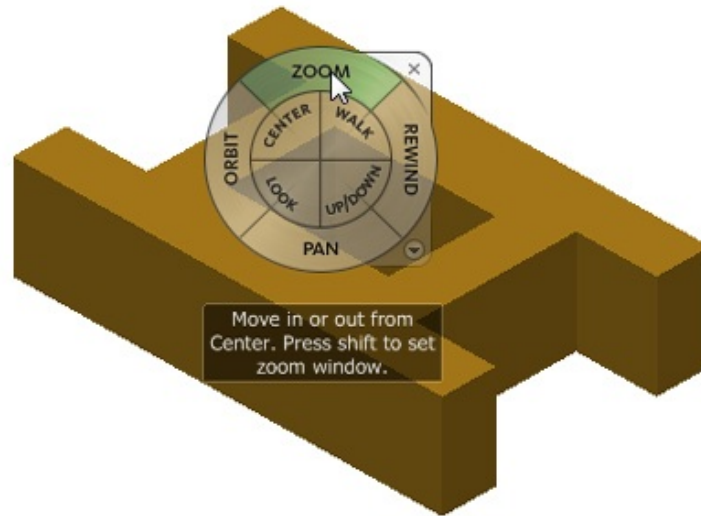

Figure 4-84 Zooming the model freely in 3D space
2. Move the cursor over the model and then move it inside the **Zoom** wedge, as shown in Figure 4-84.